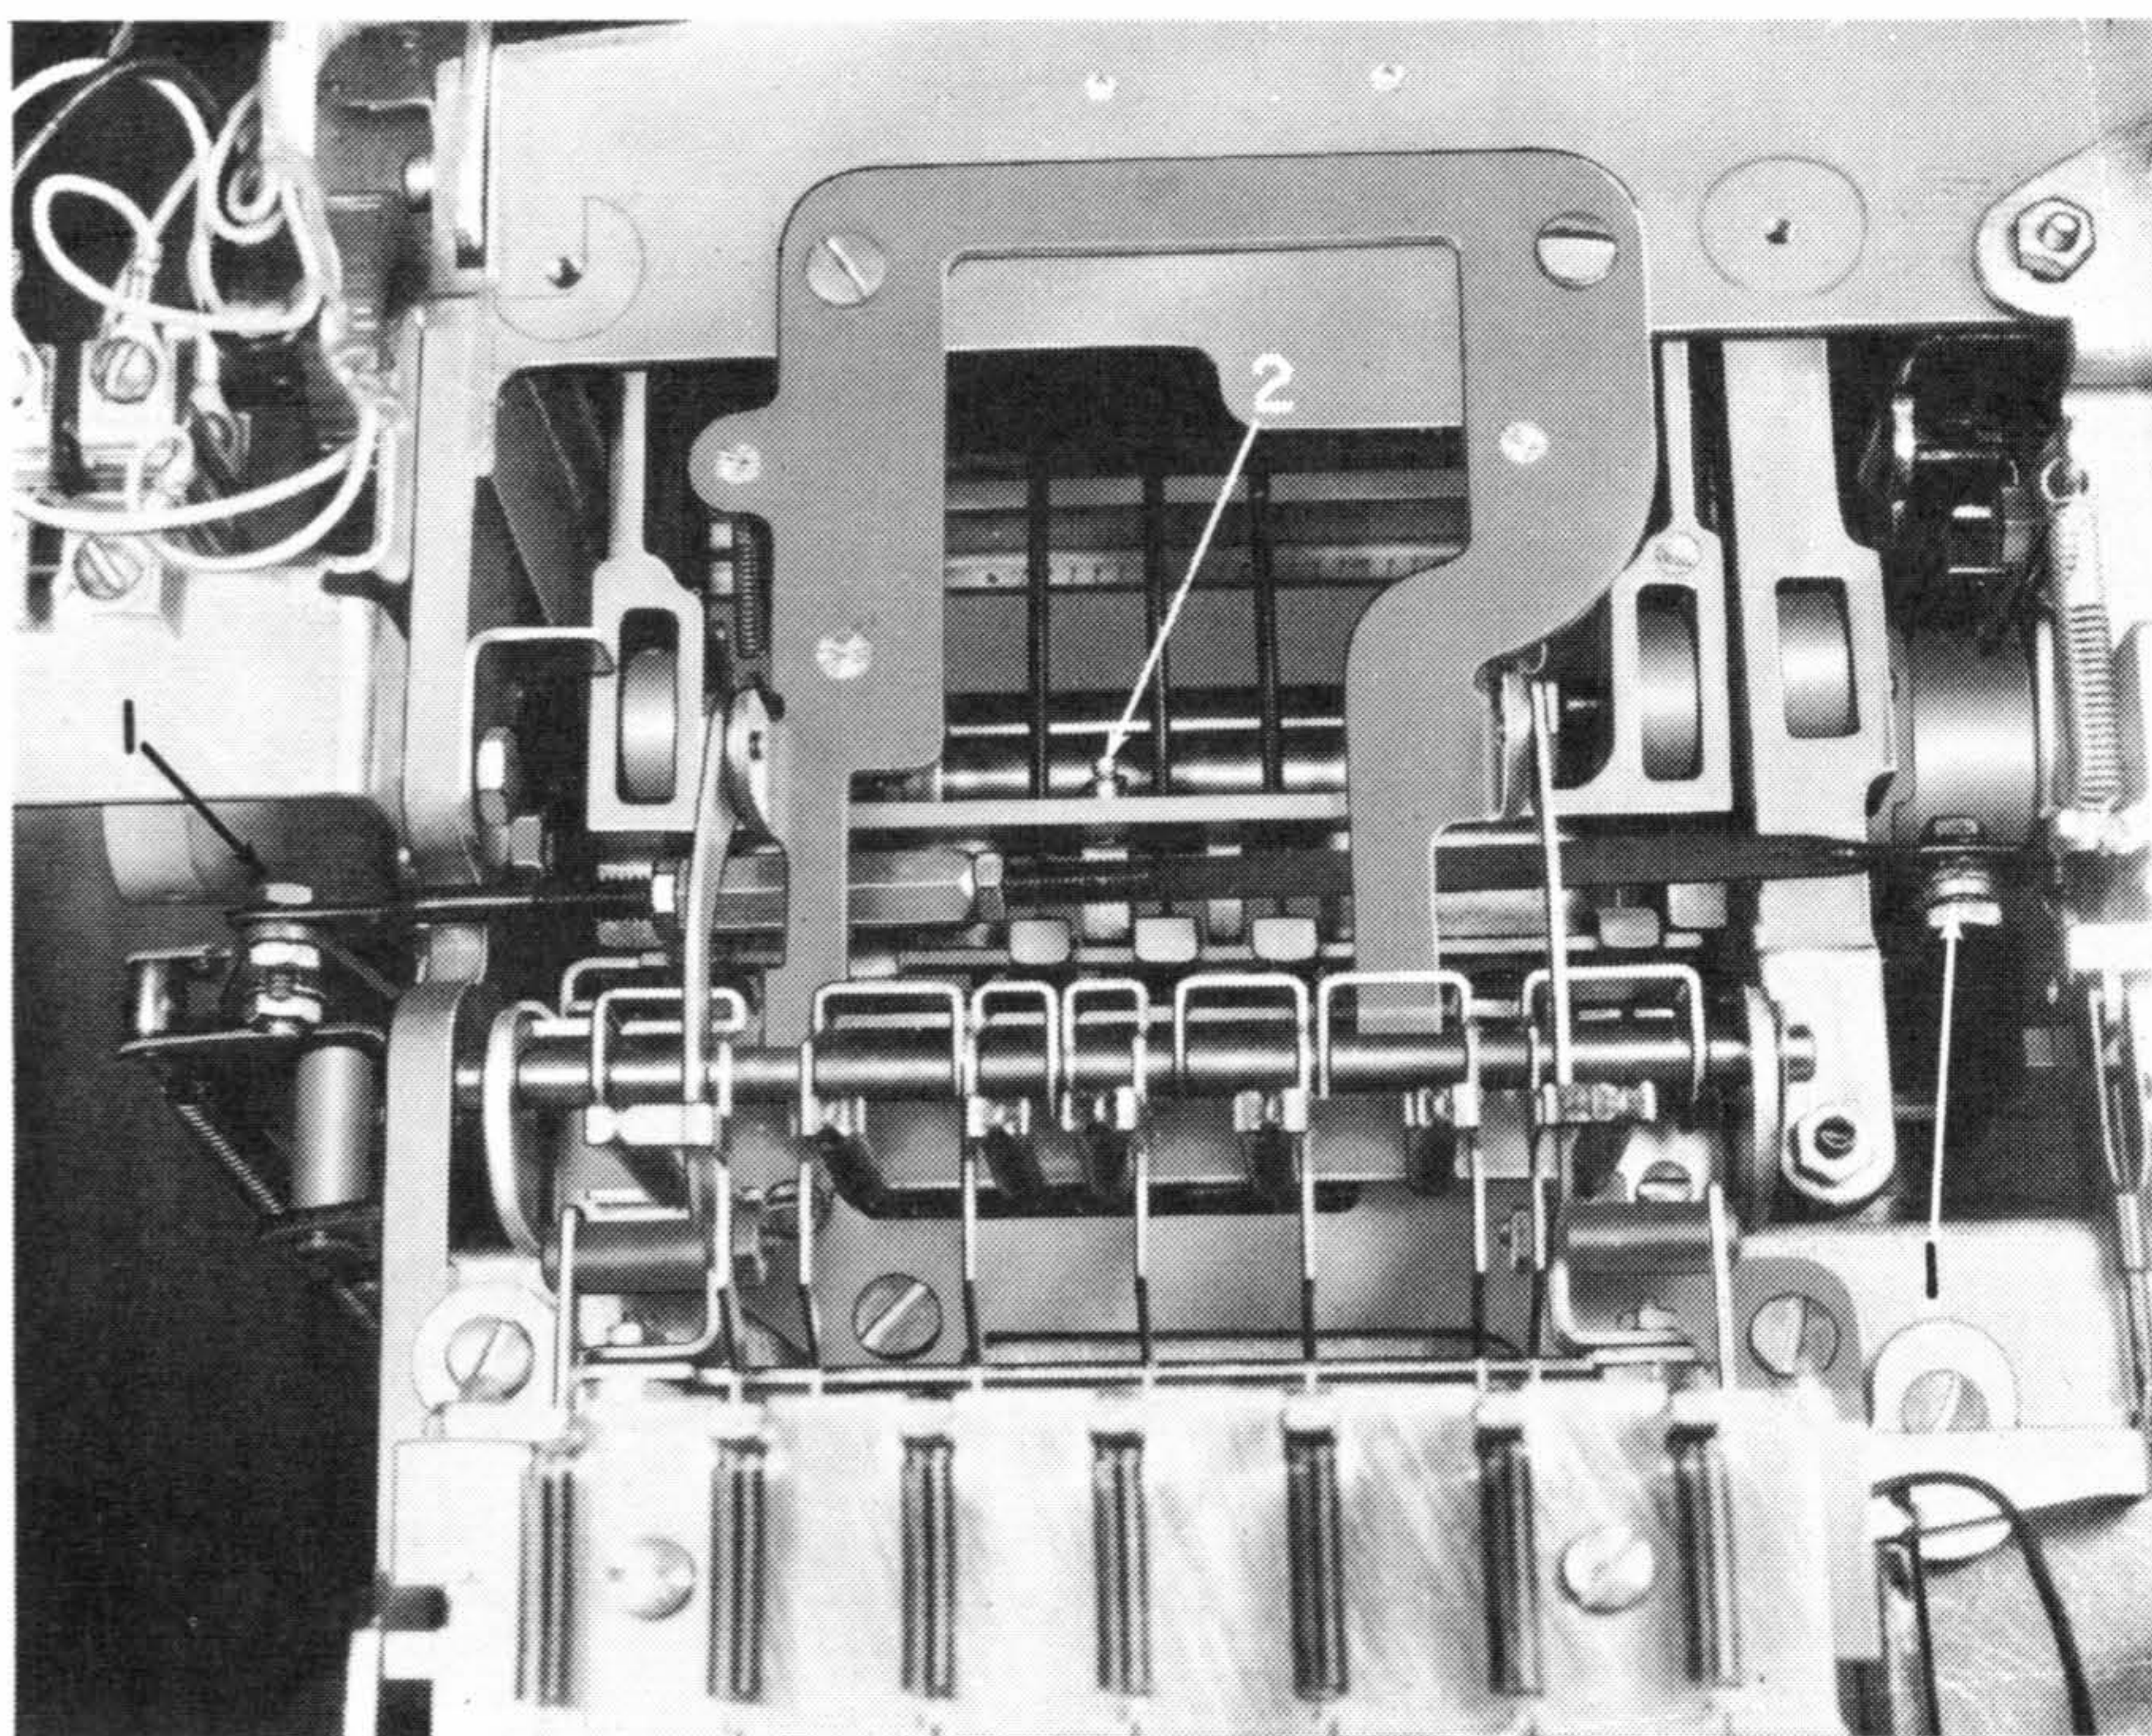

Figure 22. Rotare Selection Differential Removal
6. Disconnect the rotate link at both ends and remove it (#1, Figure 22).
7. Remove the latch-bail spring (#2, Figure 22).